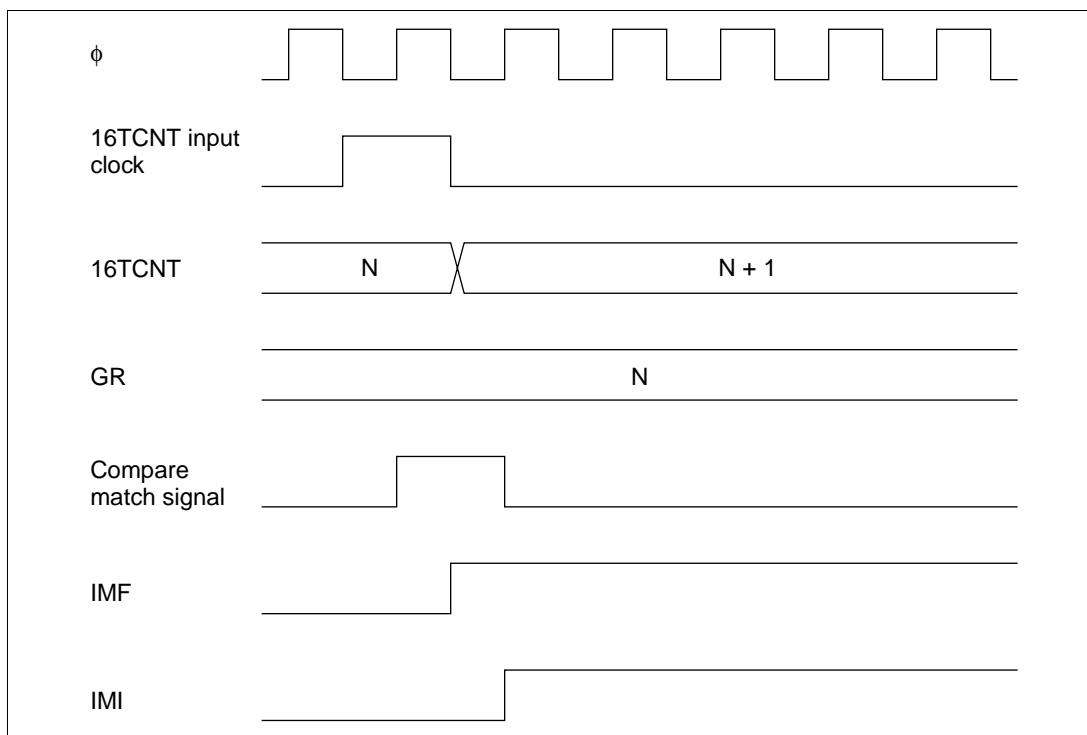

Figure 9.33 Timing of Setting of IMFA and IMFB by Compare Match
Timing of Setting of IMFA and IMFB at Compare Match: IMFA and IMFB are set to 1 by a compare match signal generated when 16TCNT matches a general register (GR). The compare match signal is generated in the last state in which the values match (when 16TCNT is updated from the matching count to the next count). Therefore, when 16TCNT matches a general register, the compare match signal is not generated until the next 16TCNT clock input. Figure 9.33 shows the timing of the setting of IMFA and IMFB.